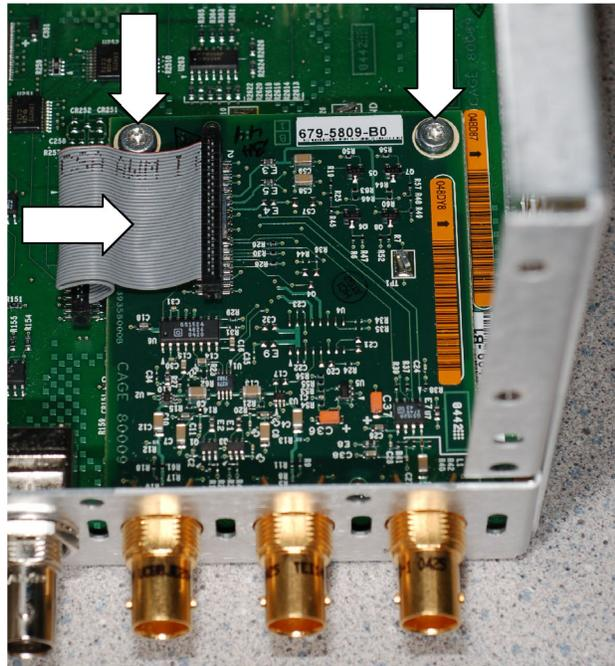

Figure 7: Removing the I/O Mezzanine module
- b. Remove the ribbon cable between J4 in the I/O Mezzanine module and J16 on the Main Interface board. (See Figure 7.)